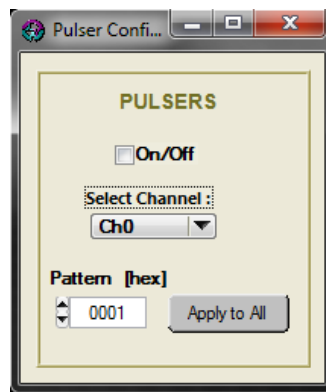

Figure 5.24: *Pulser Configuration window*
- **Pulser Configuration:** by clicking on this item, the user opens an eponym window (see Figure 5.24). In order to perform the pulsing, the On/Off checkbox has to be checked.